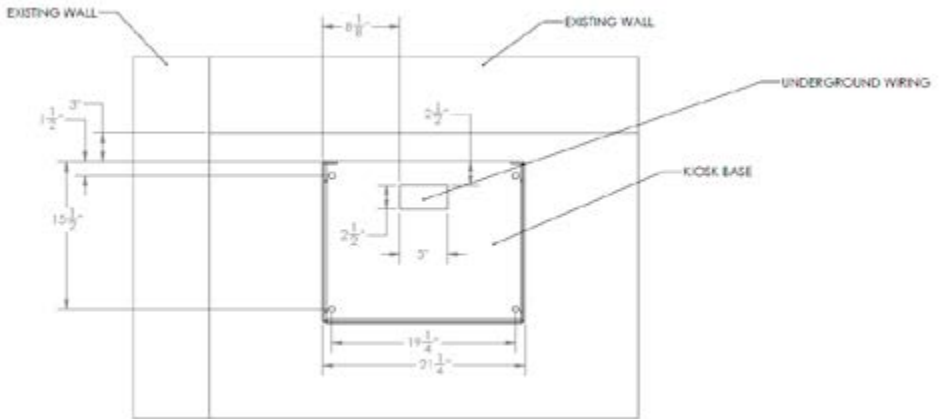
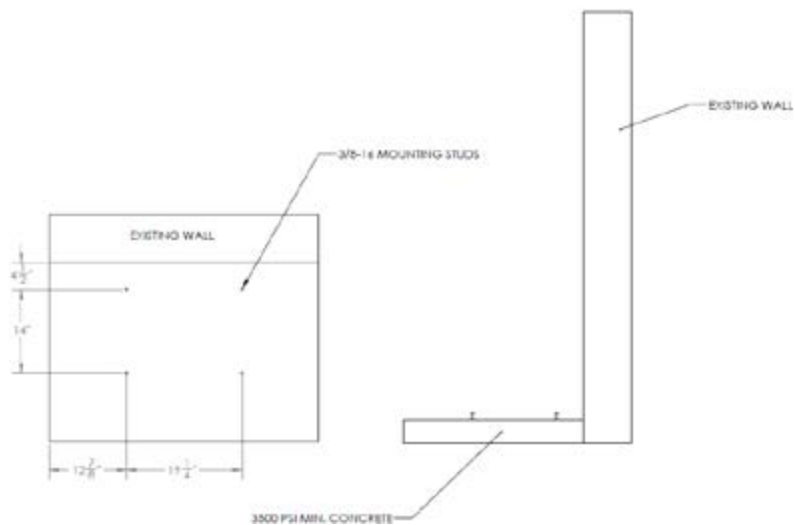

Figure 1: Model 723 Pedestal Base Layout View
Figure 2: Model 723 Concrete Pad Specifications
The INSOMNIAC 723 must be mounted on a concrete pad. Four (4) bolts will need to be anchored into the pad with which the pedestal base is to be attached. Holes in the pedestal base allow for 3/8" bolts to be used (please follow the bolt manufacturer's recommendations when anchoring bolts in concrete). Please see Figure 1: Model 723 Pedestal Base Layout (page 10) for pedestal base layout, and Figure 2: Model 723 Concrete Pad Specifications (page 11) for concrete pad specifications.